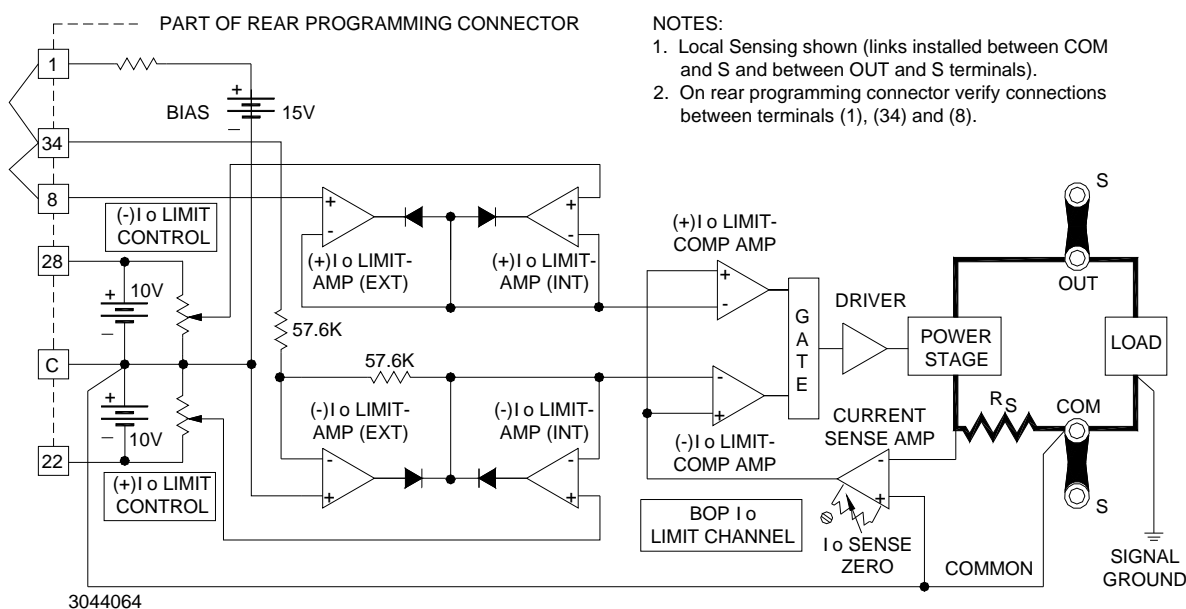

FIGURE 3-3. BOP (\pm) CURRENT LIMITING CIRCUIT (LOCAL CONTROL, LOCAL SENSING)
- (\pm) I_O Limit Circuits: See Figure 3-3 and PAR. 3.3.2 for local control.
Figure 3-3 shows the Current Limiting circuit configured for local sensing and local (front panel) control.